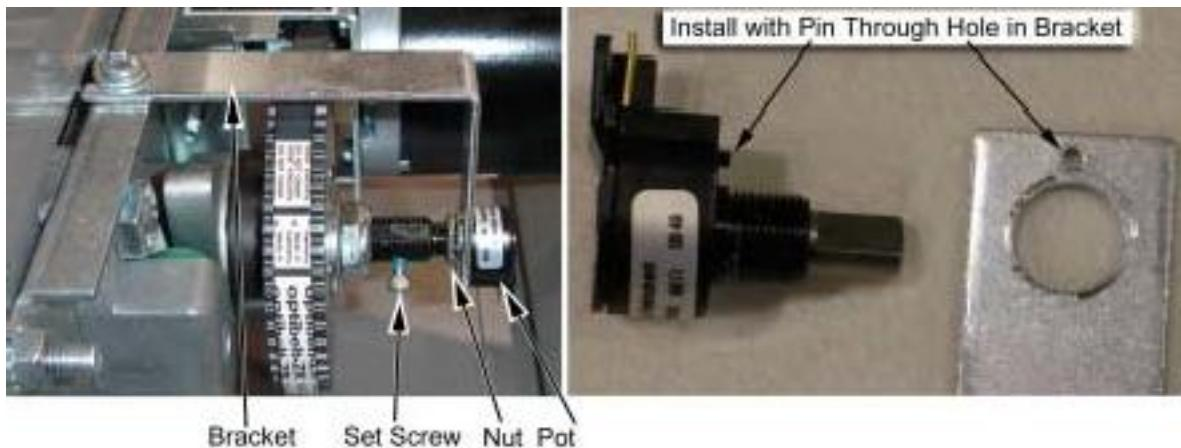
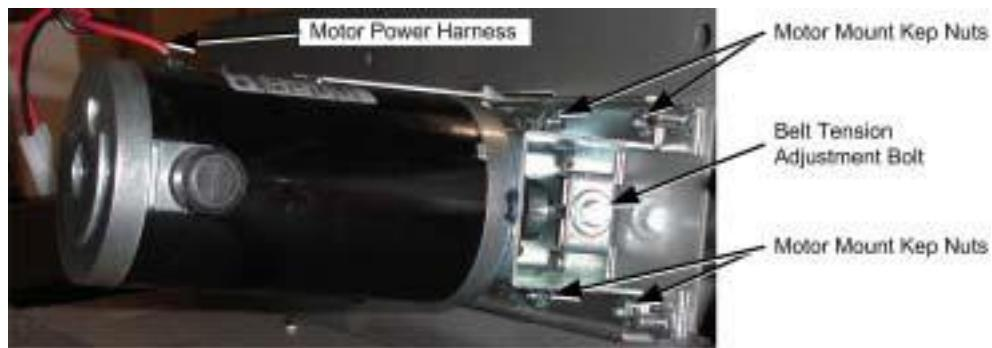

Figure 30. Replacing the 5 KΩ Steering Pot
Figure 31. Servicing the Steering Motor
To replace a pot, refer to Figure 30 and perform the following steps:
3. Reverse these steps to install the new pot. Install the pot with the plastic pin through the small hole in the bracket, as shown in Figure 30 below.
Refer to Figure 30 above, and Figure 31, and perform the following steps to remove the force-feedback belt for repair. Always replace the belt if it looks cracked or worn.
1. Using a 7/64 Allan wrench, loosen the set screw from the steering column and remove the bracket with the pot attached (see Figure 30).
2. Loosen the four (4) 3/8" motor mount Kep nuts that secure the steering motor to the frame (see Figure 31).
3. Using a 10mm socket wrench, loosen the belt tension adjustment bolt several turns until you can slip the belt off of the motor and steering gears (see Figure 31).
4. To replace the motor, remove the four (4) 3/8" Kep nuts that you loosened in step 2, and remove the motor.